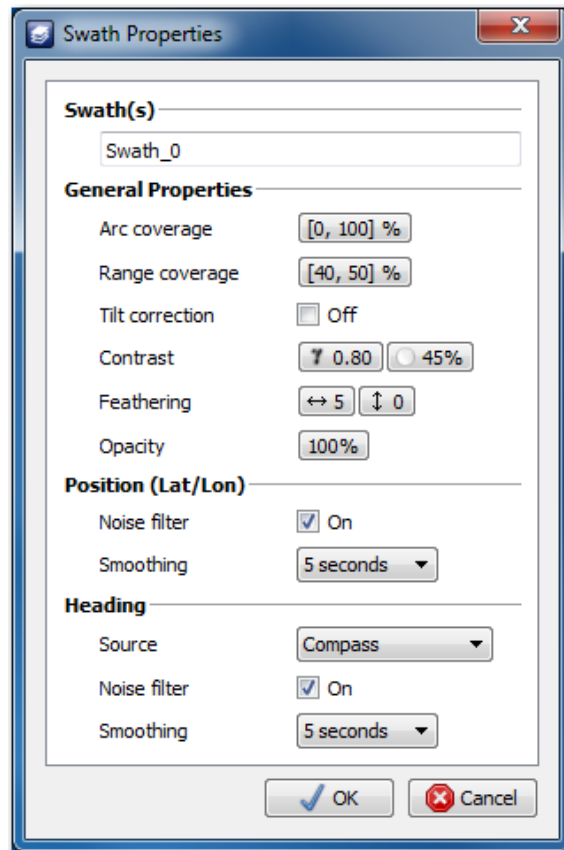

Figure 37. Swath Properties Window
A sound velocity input box appears when SAMM plays back \*.son files from the ProViewer software (Figure 37). Entering the value that is closer to the true speed of sound of water during your survey will reduce the black banding artifact in the image.
- Watch the intensity of the PPI and mosaic change for the entire active swath (Figure 37).
- Changing the gamma value enhances light or dark tones (Figure 37).